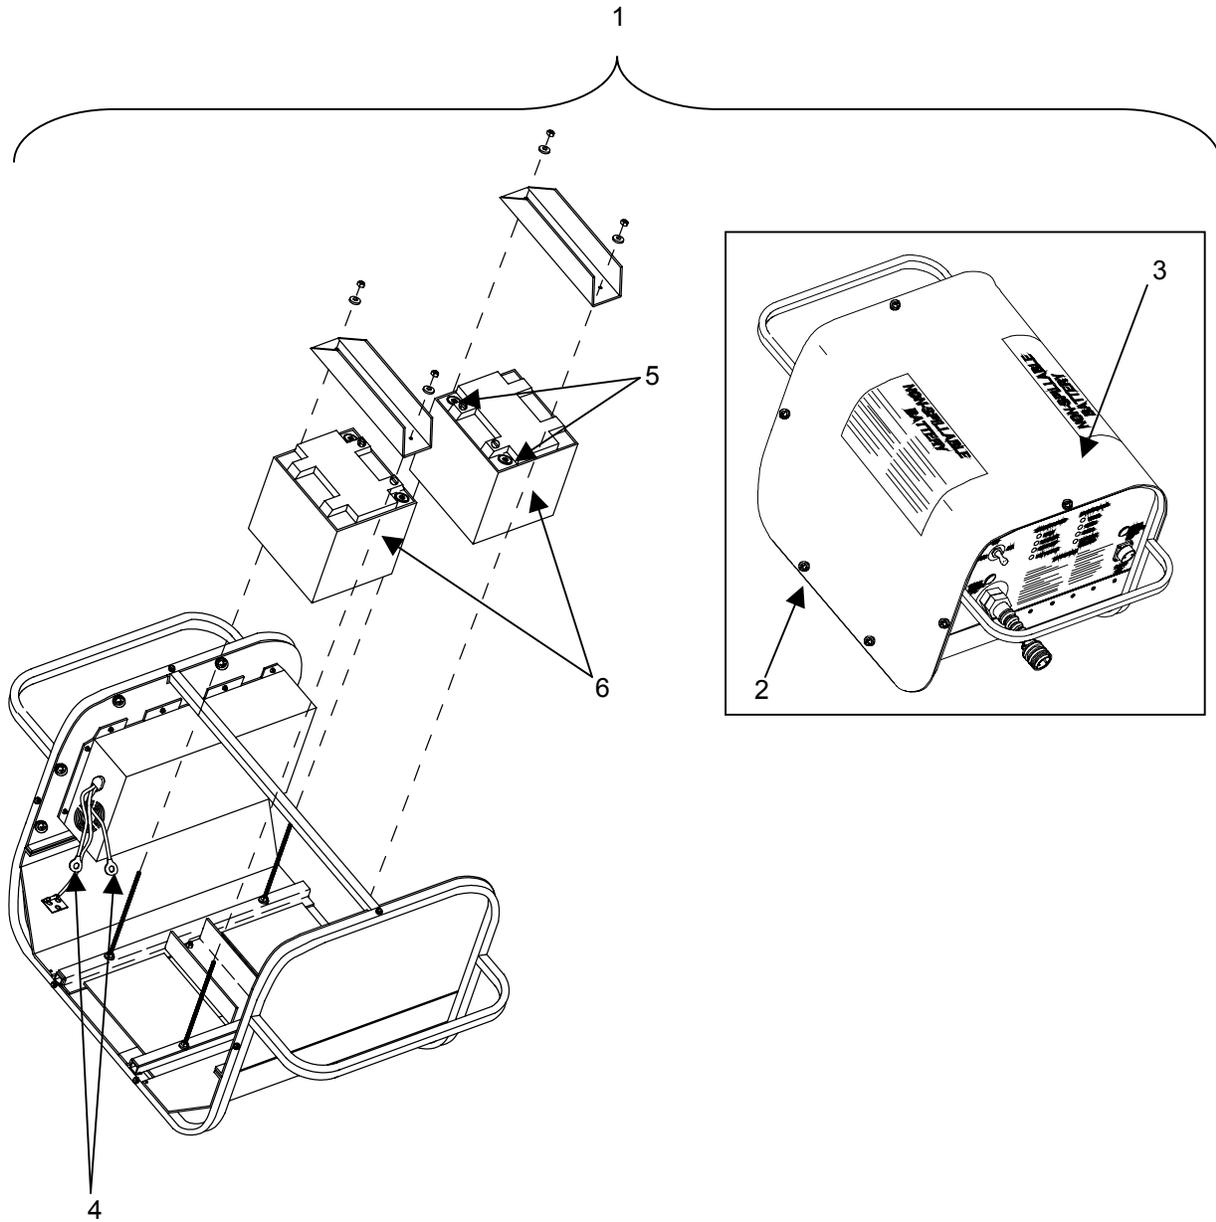

Figure 2. Test the Batteries
1. To determine the status of the batteries, attempt to charge the battery pack (**figure 2, item 1**) until the Ready indicator is lit. Refer to WP 0005 00 as necessary for operating procedures.
3. Remove the screws(**figure 2, item 2**) retaining the Battery Pack cover (**figure 2, item 3**) and remove the cover.
4. Tag and disconnect the power leads (**figure 2, item 4**) that extend from the charger to the battery terminals (**figure 2, item 5**) so that the batteries (**figure 2, item 6**) are no longer connected to the charger or each other.
5. With a Multimeter set to measure DC Volts, place the (+) positive lead of the Multimeter on the (+) positive terminal of one battery (**figure 2, item 6**) and the (-) negative lead of the Multimeter on the (-) negative terminal of the same battery.
6. Read the output voltage of the battery (**figure 2, item 6**) on the Multimeter. If the voltage is 11VDC or less, the battery is most likely no longer capable of holding a full charge and requires replacement.
7. Repeat steps 5 and 6 with the remaining battery (**figure 2, item 6**).
8. Connect the power leads (**figure 2, item 4**) to the battery terminals (**figure 2, item 5**) as tagged.
9. If the batteries (**figure 2, item 6**) pass the voltage test, install the cover (**figure 2, item 3**), and retain with screws (**figure 2, item 2**).